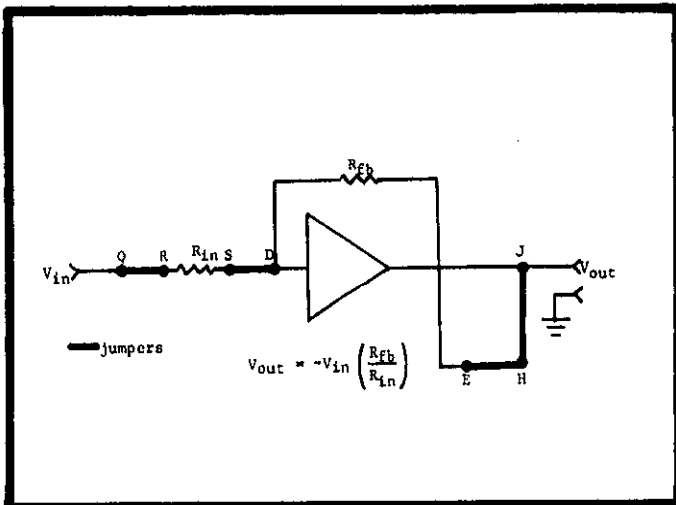

FIGURE 14. Voltage Amplifier Without Fractional Feedback.
2-11. VOLTAGE AMPLIFIER (Figures 14 and 15).
b. Connections for the Model 300 as a voltage amplifier without a divided feedback (Figure 14):